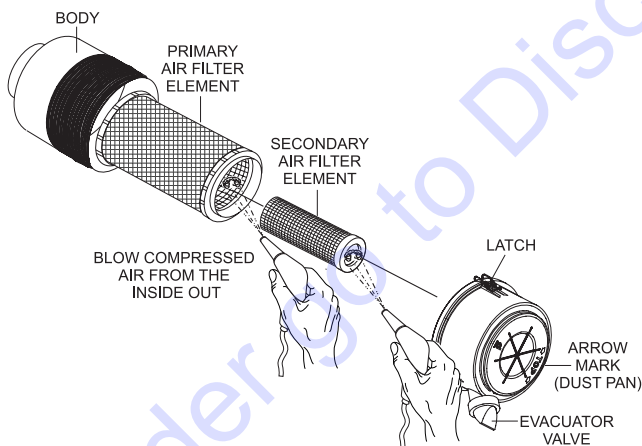

Figure 62. Engine Air Cleaner
This Isuzu diesel engine is equipped with a replaceable, high-density, paper air cleaner element (Figure 62). The air cleaner is also equipped with an inner (secondary) element that is used as a backup filter should the primary element become damaged. Check the air cleaner daily or before starting the engine. Replace the air cleaner as needed.
1. Release the latches that secure the cover to the air cleaner body (Figure 62).
2. Remove the **air cleaner cover** (Figure 62) and set it aside.
3. Remove both the primary and secondary air cleaner elements (Figure 62).
5. To clean the **primary element** (paper air filter) as shown in Figure 62, tap the filter element several times on a hard surface to remove dirt, or blow compressed air, not to exceed 30 psi (207 kPa, 2.1 kgf/cm2), through the filter element from the inside out.
8. Clean the inside of the **air cleaner body** (Figure 62).